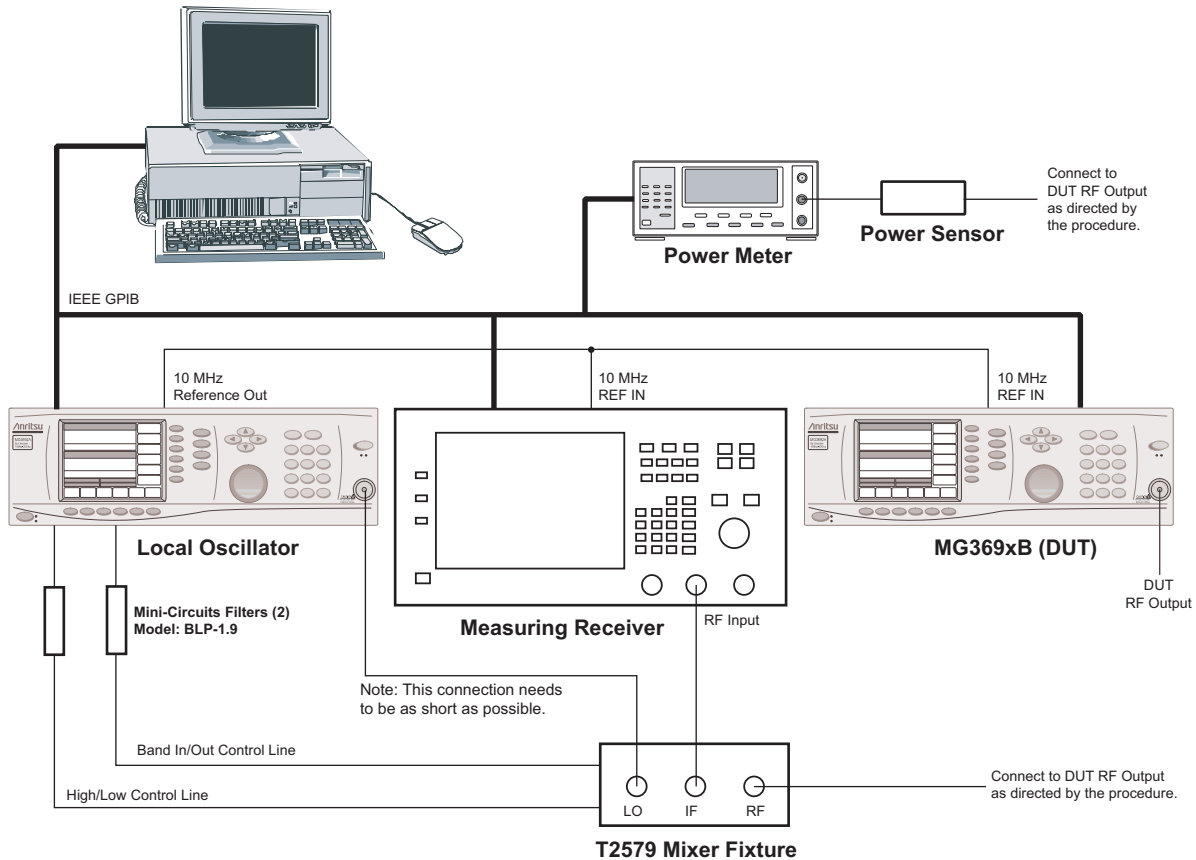

Figure 3-10. Level Cal Setup using T2579 Mixer Fixture
5. If using the T2579 Mixer box, see Figure 3-10 on page 3-26.